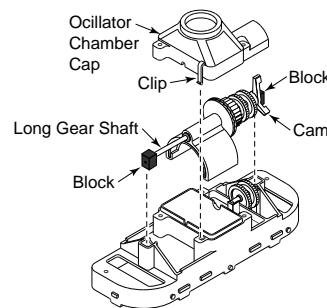
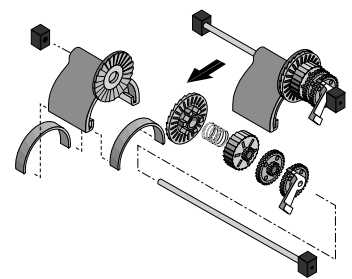

Figure 14A
Figure 14B
3. Turn lower body assembly right side up. Unsnap the 2 clips on the oscillator chamber cap (Figure 14A); lift it off.
4. Pull the long gear shaft straight up (Figure 14A) by the blocks on the ends of the shaft. Hold the seals in the oscillator and the blocks on the shaft. The cam may interfere with the shaft mounting post; if so, turn it slightly on the shaft until it clears the post. The shaft assembly can now be disassembled (Figure 14B).
5. Slide the long gear shaft out of the oscillator (with gears, complete); make sure that you don't lose the seals out of the oscillator which may fall out at this point (Figure 14B).